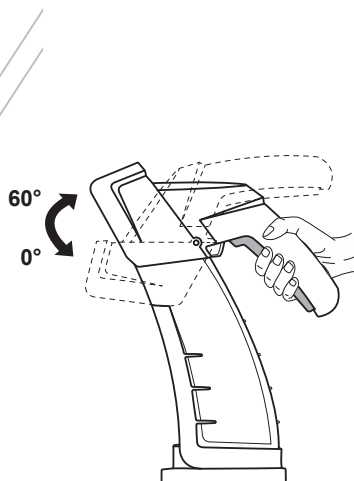

Fig. 9B
3. Squeeze the trigger and move the deflector upward or downward to a suitable height. The tool offers different angles from 0°~60°. Release the trigger to lock the chute deflector in place. (Fig. 9B)